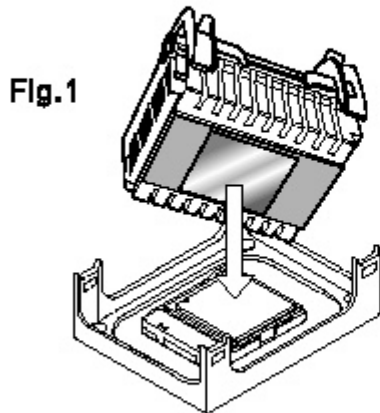
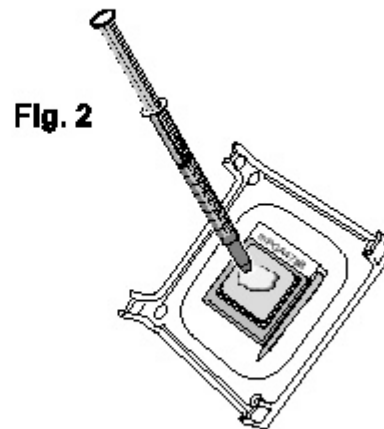

Fig.1
Fig. 2
4. After installing the CPU you may need to apply the Thermal Interface Material (TIM) to the top of the installed CPU (Fig. 2). The TIM is supplied in an applicator with the boxed Pentium 4 processors. The TIM secures the Fan/Heatsink to the CPU. However, if the Fan/Heatsink already has a patch of TIM on its underside, you won't need to apply additional TIM to the CPU (Fig. 1).
The heatsink may have thermal interface material attached to the bottom as shown in Fig.1, or you may need to apply the thermal interface material using a syringe as shown in Fig.2.